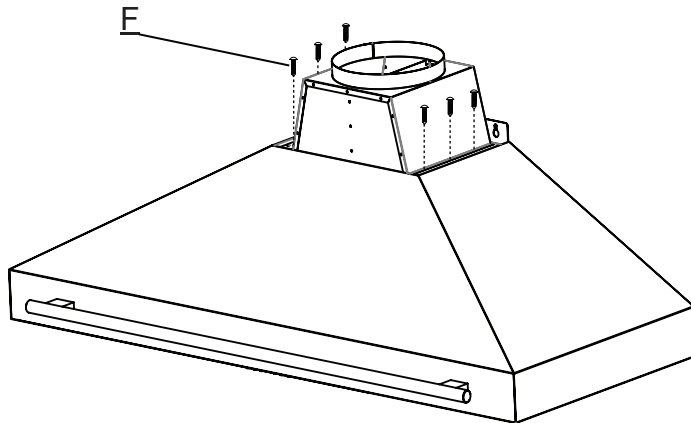

Figure 5.
8. Install the air outlet adapter over the hood using the provided M4 × 0.472" screws (F). Figure 5.